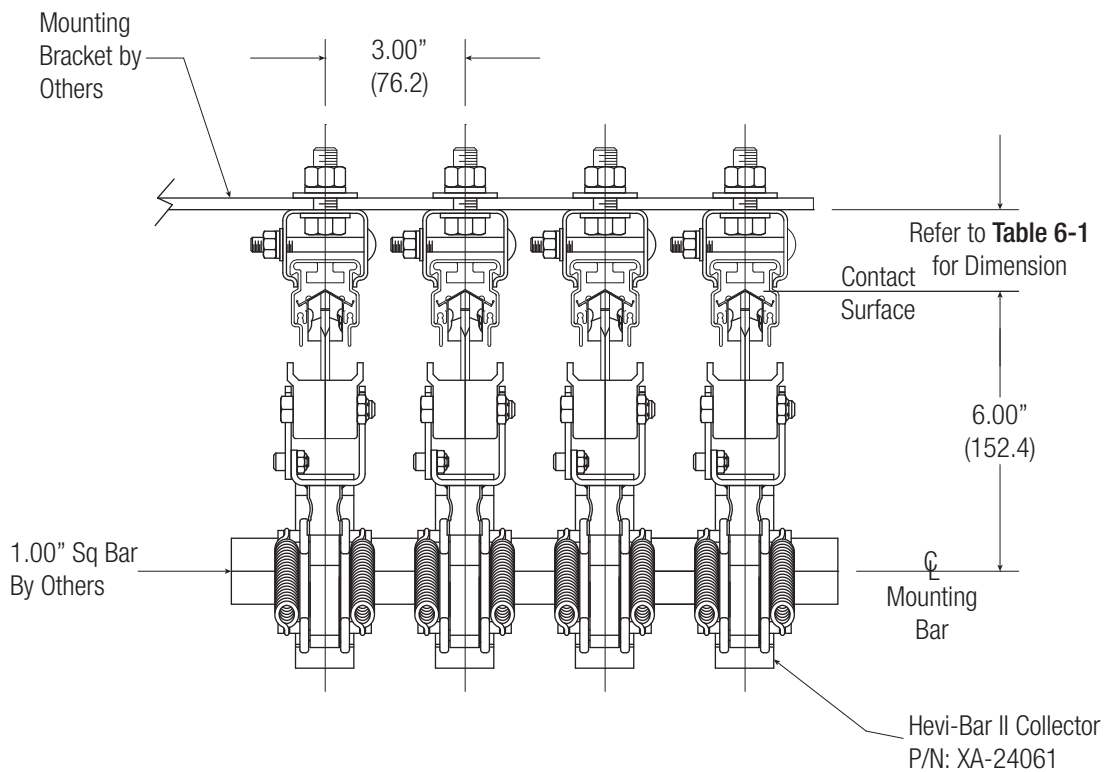

Figure 14-9
2. If there is any question to the mounting distance, please refer to the particular system layout drawing or consult the factory at (800) 521-4888.
3. Align the collectors on the square bar as shown in **Figure 14-9**. The typical phase-to-phase mounting distance between collectors is 3 inches. Please consult the specific layout drawing for exact values. Take special care as to align the collector arms so they run directly beneath the conductor bar. This assures maximum shoe life and permit full articulation of the collector head.